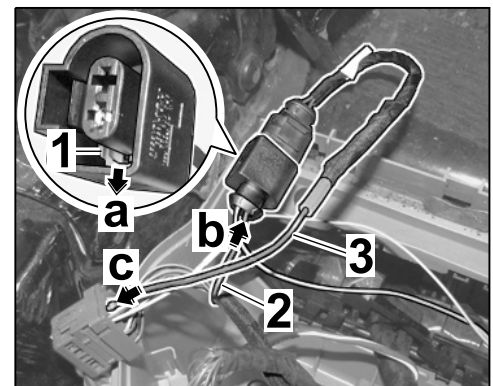

Figure 22
- 2.4.2 Open secondary lock ⇒ *Figure 22-1-* on the plug socket (connection point) ⇒ *Figure 22-a-*.
- Insert socket contact of the RD/GN line you pressed out ⇒ *Figure 22-2-* into chamber 2 of the plug socket ⇒ *Figure 22-b-*.
- 2.4.3 Insert adapter line ⇒ *Figure 22-3-* (connection point) into chamber 17 of the red connector ⇒ *Figure 22-c-*.